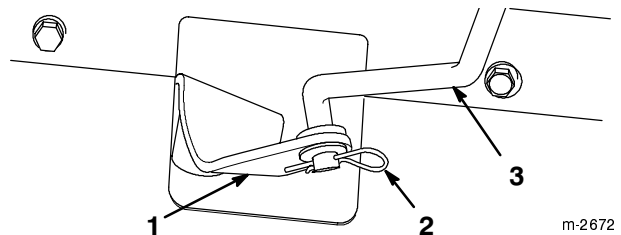
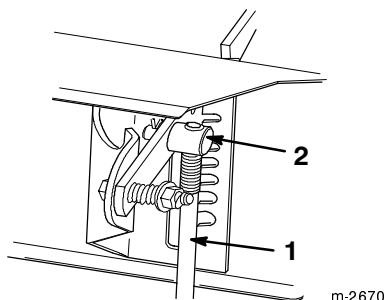

Figure 6
Figure 8
1. Pull the speed selector arm (Fig. 6) to the most outward position.
3. Rotate the speed selector rod in the trunnion (Fig. 8) until the bottom end of the rod can slip into the hole in the speed selector arm (Fig. 6).
4. Install the speed selector rod into the selector arm, add one flat washer on the rod, and secure it with a cotter pin (Fig. 6).